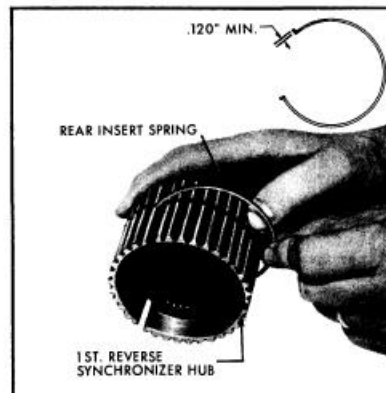

Figure 4-14—Installing Rear Insert Spring
1. Install rear insert spring in groove in 1st - reverse synchronizer hub. See Figure 4-14.